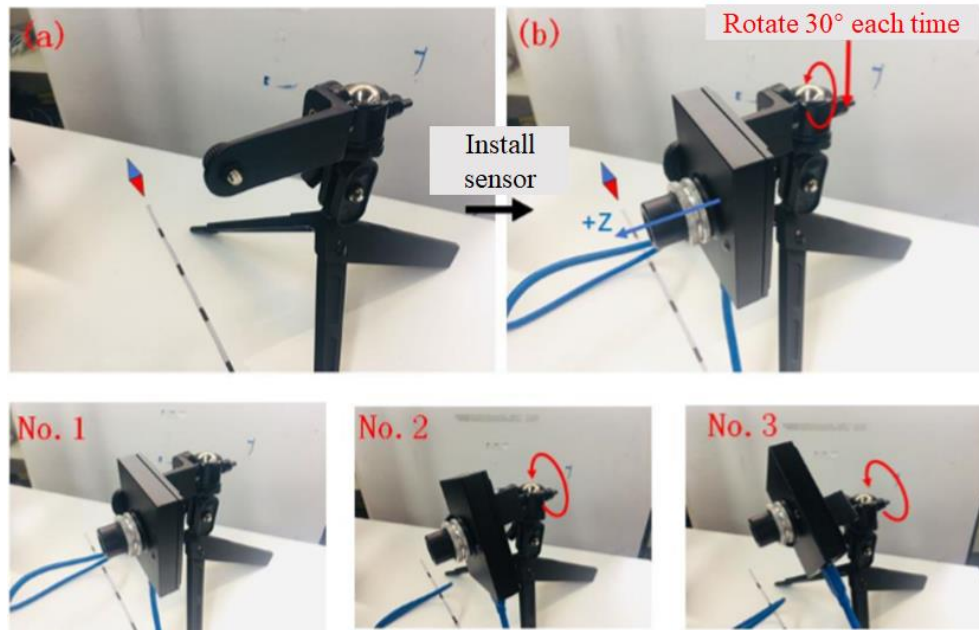

Fig 2-2
- iii. No. = 1, assemble and place holder as shown in Fig 2-2(a), and install the sensor on the holder as Fig 2-2 (b) shown. The horizontal Z-axis of the sensor is vertical to the south-north direction. The position of sensor should be similar to the current picture.